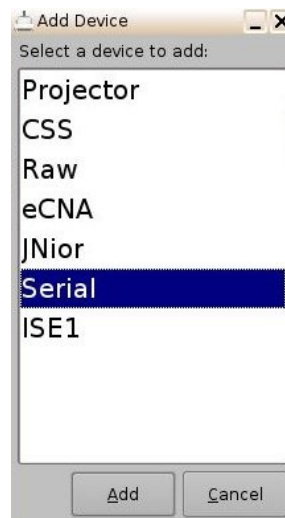
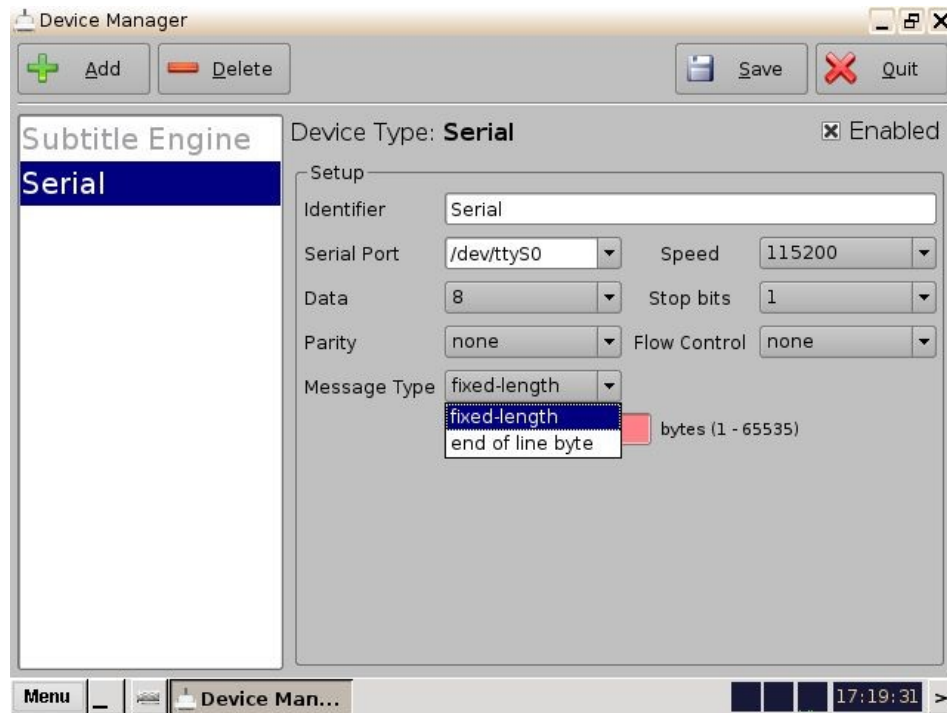

Figure 102: Add Device Window
Figure 103: Device Manager GUI - Serial Device Added
- Click the Add button (Figure 102). The following window will appear (Figure 103):